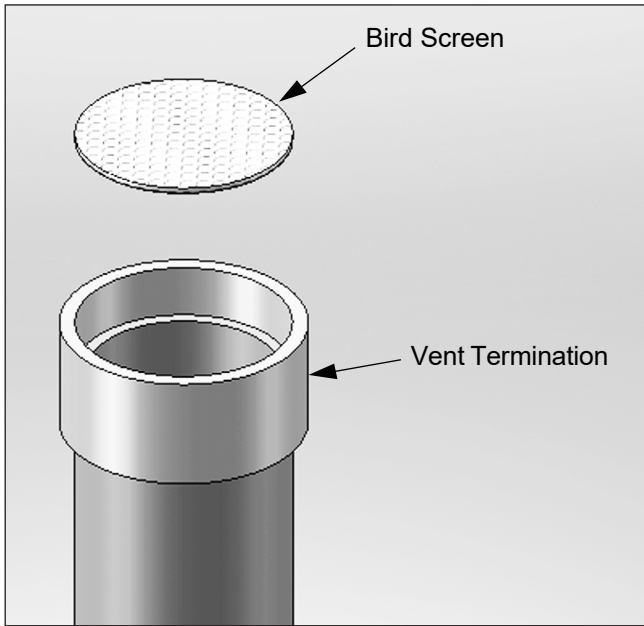
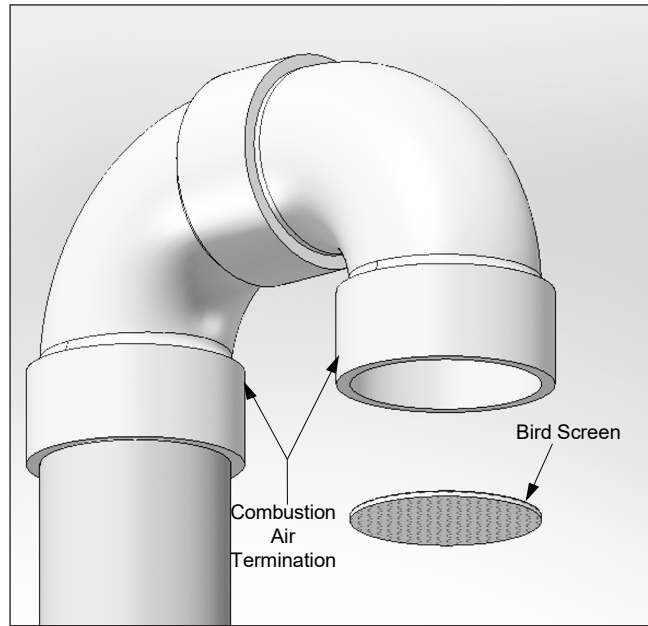

Fig. 3 - Vertical Vent Bird Screen Installation
Fig. 4 - Vertical Combustion Air Bird Screen Installation
1. The vent and combustion air terminations must include a factory supplied "bird screen" installed as shown in Fig. 3 and Fig. 4 on page 14